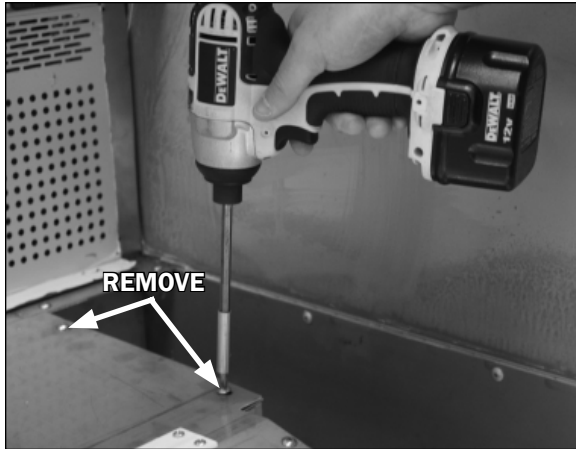

Fig. 12 Coil cover removal
2. Remove the top two screws at both ends of the coil cover. (Fig. 12). **Be sure to save the removed screws for reassembly.**